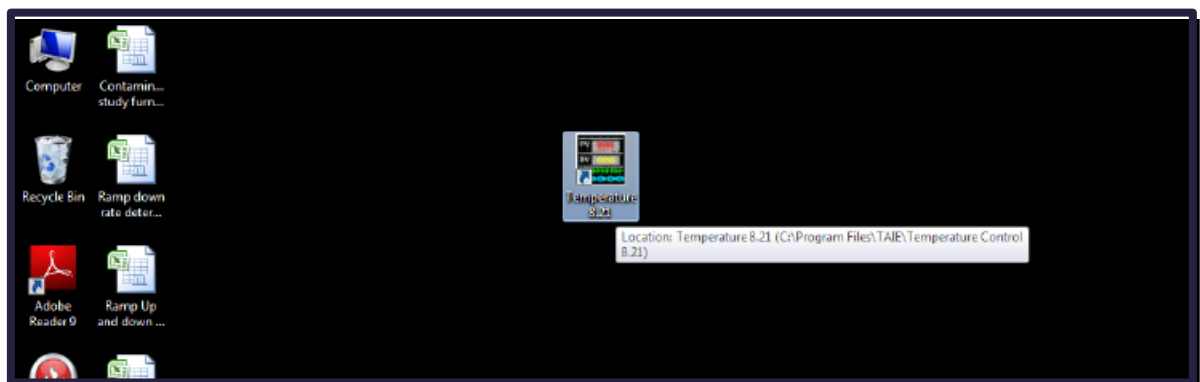

Figure. 13
1. Click on the “Temperature 8.21” icon on the desktop of computer system (Figure. 13).